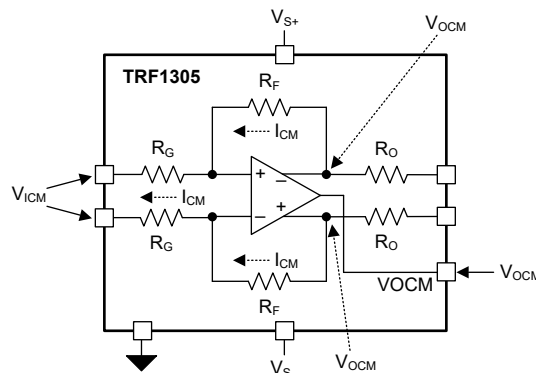

Figure 8-4. Net DC Current Flow When Input and Output Common-Mode Voltages are not Equal
The TRF1305x2 accepts a wide range of input dc common-mode (CM) voltages. Take into consideration the dc current loading of the source when the TRF1305x2 is dc-coupled at the input. Figure 8-4 shows that when the input CM voltage, V_{ICM} , is different than the output CM voltage, V_{OICM} , a net dc current flow from or to the source occurs. Equation 1 shows the relationship that the source or sink current, I_{ICM} , has with the input and output CM voltages: